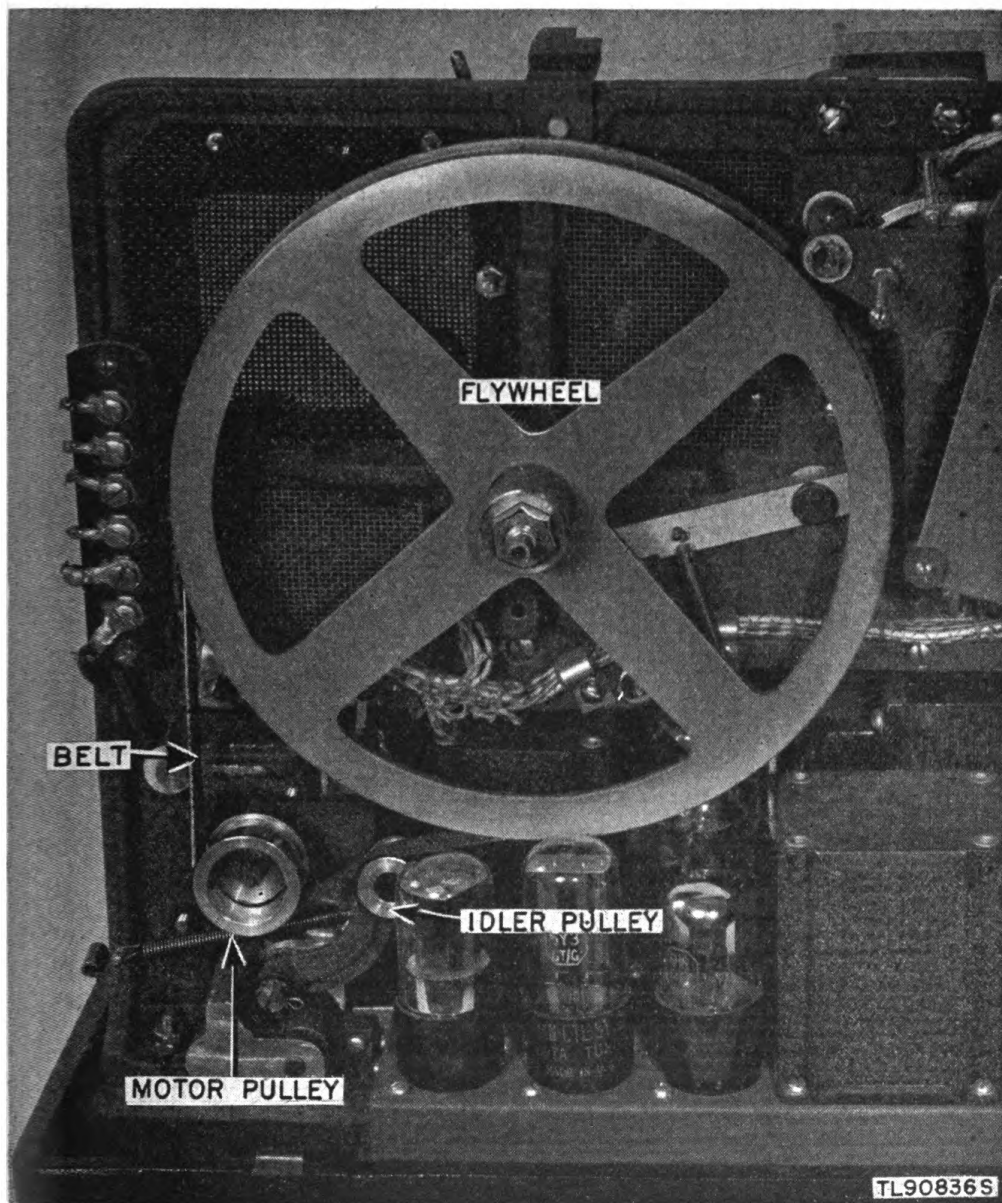

Figure 44. Belt and pulley, Sound Recording Set AN/UNQ-1.
(2) *Sound Recording Set AN/UNQ-1* (fig. 44). (a) Place the belt around the flywheel.